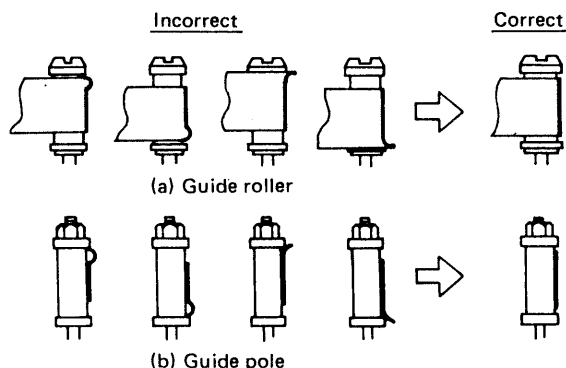
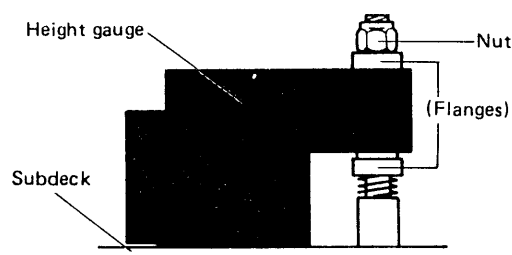
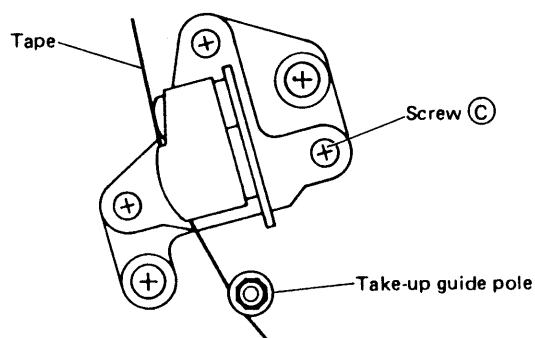

Fig. 2-21 Guide roller and guide pole
Fig. 2-26 Guide pole height adjustment
Fig. 2-28 Take-up guide pole
During Loading and Unloading, observe the tape at the supply and take-up guide rollers and guide poles. Confirm absence of curling, wrinkling, etc. as shown in Fig. 2-21.
5. During Play mode, observe the tape at the take-up and supply guide poles and guide rollers. Confirm absence of curling, wrinkling, etc. as shown in Fig. 2-21.
1. Set the height gauge on the subdeck as shown in Fig. 2-26.
2. Use a metric nutdriver to turn the supply guide pole to align the upper flange of the guide pole with the upper edge of the tape as shown by (b) of Fig. 2-21. However, this adjustment must be performed so that at the same time, the upper flange remains within  $\pm 0.5$  mm of the height adjusting jig portion shown in Fig. 2-26.
2. Turn audio/control head screw (C) as shown in Fig. 2-28 and adjust for smooth transport at the take-up guide pole as shown by (b) of Fig. 2-21.